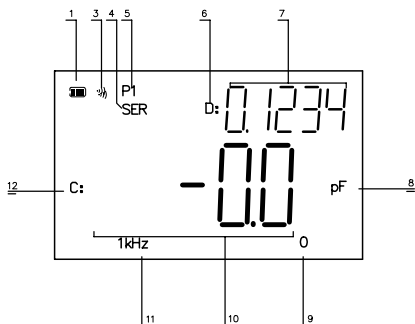

Figure 4-1 Measurement Display
- Press  key to select the Series or Parallel circuit mode. (Refer to Figure4-1)